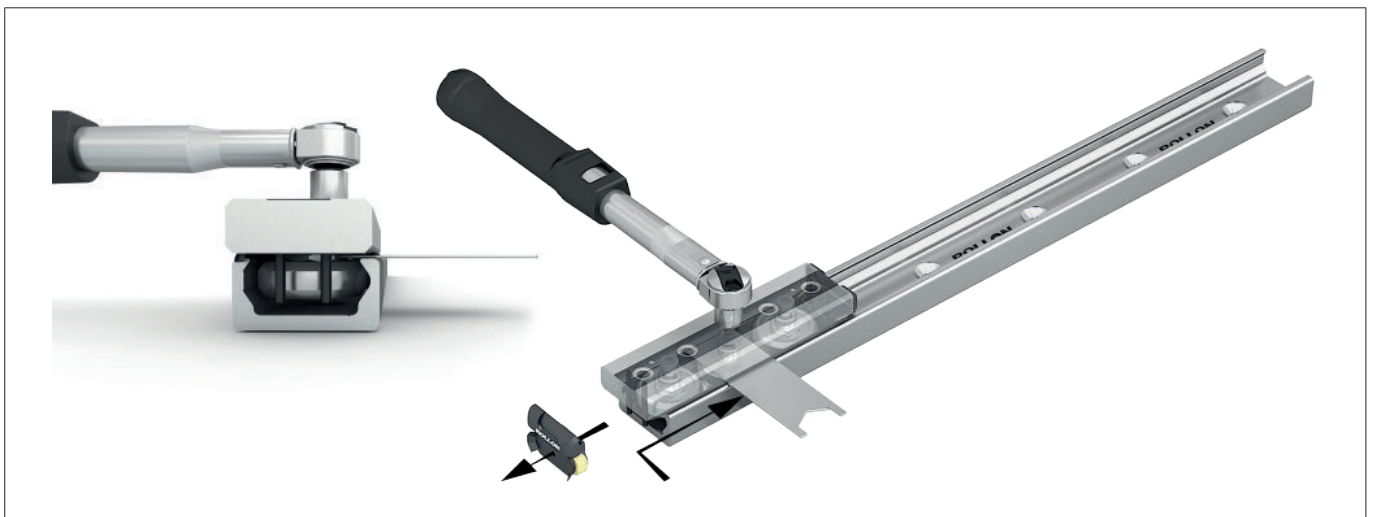

Fig.58
- (1) Check that the rails are clean and remove the wipers to increase sensitivity for proper preload.
- (2) Place the slider in the rail. It may be necessary to align the bearings to be adjusted with those fixed, to facilitate insertion. Excessive offset may make insertion difficult. Use the flat spanner.
- (3) Use a medium threadlocking adhesive in the screws.
- (4) Lightly tighten the upper bearing screw without over-tightening. Vice versa if the screw has already been previously tightened, loosen the bearing fixing screws slightly. The bearing must be able to rotate but should not be completely free. Only adjust the eccentric bearings (with a point engraved see p. 17).
- (5) For NSW/NSA/NSD/NSDA series, place the slider at one end of the rail to simplify insertion of the flat key. For the CSW/CDW series, adjustment can take place at any point on the rail, if desired.
- (6) Insert the flat spanner supplied between the rail and the slider. For NSW/NSA/NSD/NSDA series take care to insert it from the end of the slider, sliding it under the side seal until it reaches the bearing to be adjusted. (Fig.58). Engage the hexagon of the eccentric bearing with the flat spanner.
- (7) Turn the flat adjustment spanner clockwise so that the eccentric bearings contacts the raceway opposite the factory-set fixed bearings, thus reducing the slider clearance to zero. Avoid applying a high preload, which would cause high wear and reduce service life.
- (8) While holding the eccentric bearing in the correct position with the flat adjusting spanner, tighten the fixing screw to ensure a stable pin position.
- (9) Run the slider and check the preload over the entire length of the rail. The movement must be smooth. If any oscillation/clearance or excessive force is observed, repeat the adjustment operation. Preload is optimized when the slider runs smoothly and without play.
- (10) For sliders with more than 3 eccentric bearings, repeat this procedure for each one to be adjusted (for NSW, only the rollers with accessible screws on top of the slider can be adjusted). Ensure that all bearings have uniform contact with the raceways.
- (11) While maintaining the angular position of the pin with the flat spanner, tighten all the bearing retaining screws with a torque spanner to the specified tightening torque shown in Tab.40.
- (12) Reinstall the wipers.
- (13) For CSW/CDW series, lubricate the raceways.